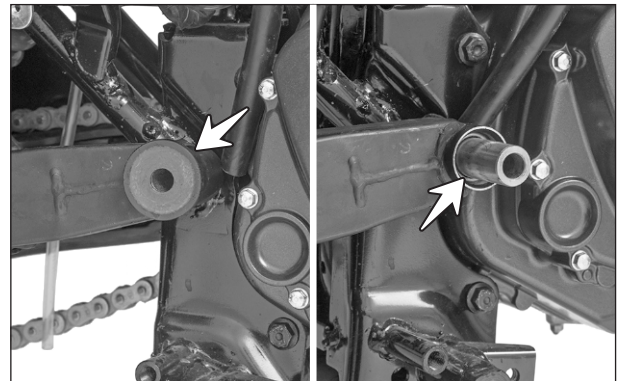

Fig. 2.129
- Take out the dust seal swinging arm and sleeve swing arm from the RH side of the swing arm assembly. (Fig. 2.129)